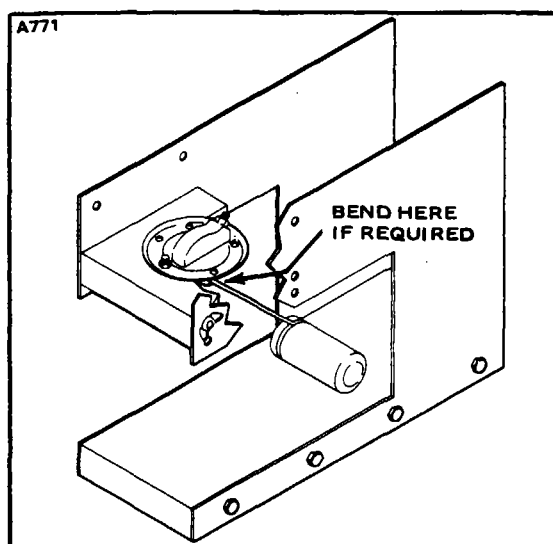

Figure 9-12. Checking Fuel Quantity Sender
2. Secure the sender in the appropriate position on the fabricated jig as shown in Figure 9-12. (The jig may be fabricated from dimensions given in Figure 9-26.)
3. With the float arm against the bottom stop, the float should be just touching the base of the jig. If the float arm is not touching the base of the jig or the bottom stop, adjust the float by bending the arm at a position shown in Figure 9-12.